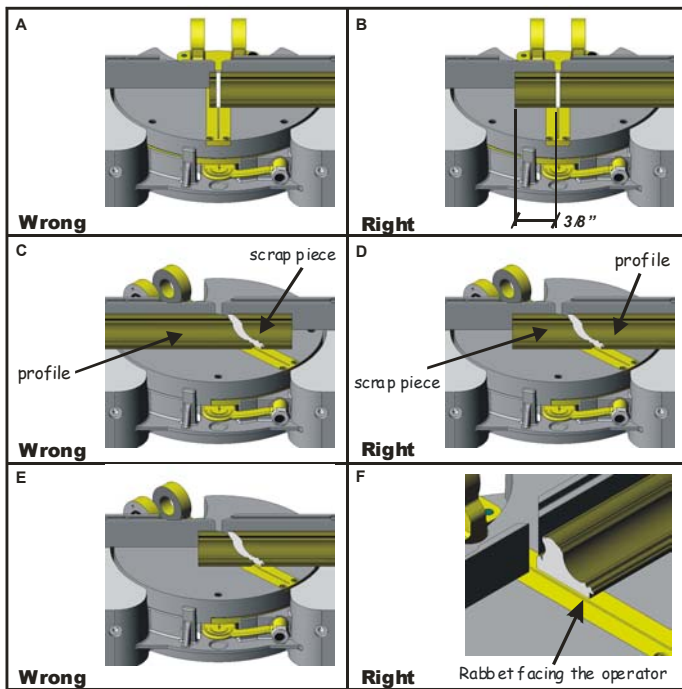

Figure 01
- When cutting the profiles, the rabbet must be facing the operator, as shown in figure 01 (F). Must be avoid cuts as figure 01 (C) or else the saw blade can pull the scrap piece into the machine, and that way offering risk to the operator or damage to the machine.
- In order to obtain a good finishing and safety when cutting observe on top of the profile that you must allow at least 3/16" (5mm) of wood between the cut and the end of the stick as figure 01 (B).
- When cutting the profiles with rabet, the rabet must be facing the operator as figure 01 (F).